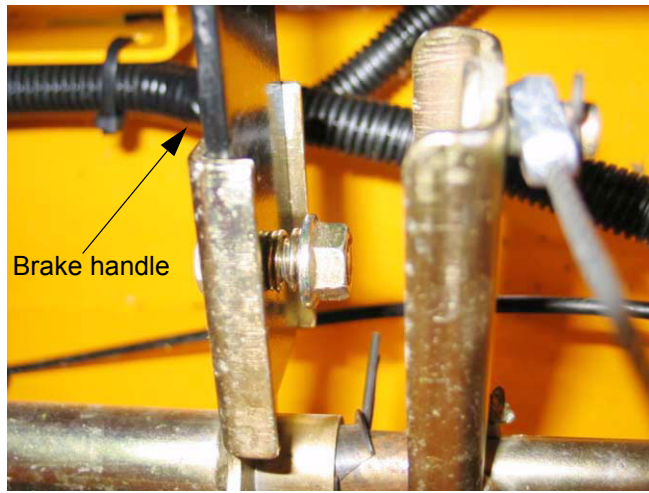

Figure 14.8
14.8. Using two 9/16" wrenches remove the bolt, nut, and spring on the brake handle on the left handle side of the deck lift shaft. See Figure 14.8.